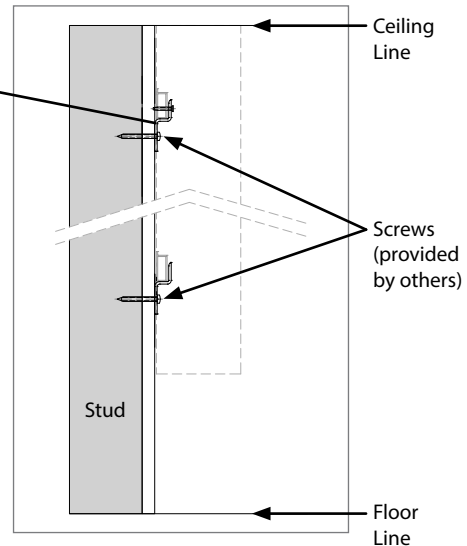

Figure 4: Setup
6. Connect the hanging bracket to the headwall support using the provided self-drilling screws (**Hardware 1**). (**Figure 4**).